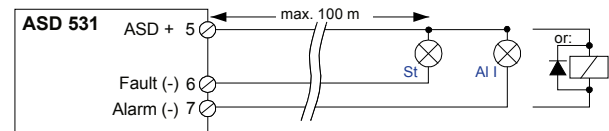

Fig. 40 Connecting the OC outputs
- When connecting inductive consumers (e.g. relays), a free-wheeling diode is to be installed directly at the consumer (**Fig. 40**).